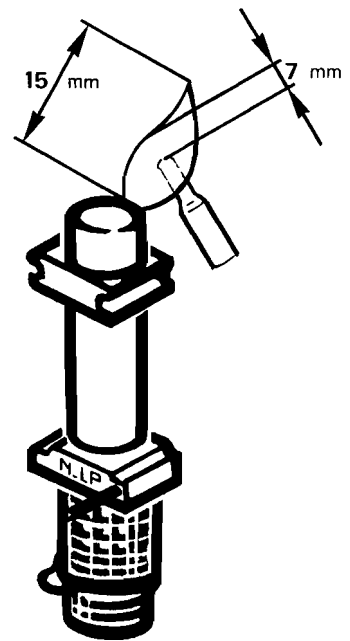

Fig. 24
- c. Ensure that the Pilot Flame envelops the thermocouple tip as in Fig. 24 and that the Spark Electrode gap is set between 4.0 - 4.5 mm.
Check the pilot flame fully envelops the thermocouple tip as shown (Fig. 24). Note that the recommended range of operating parameters for the thermocouple is : 5 mV mini to 8 mV.